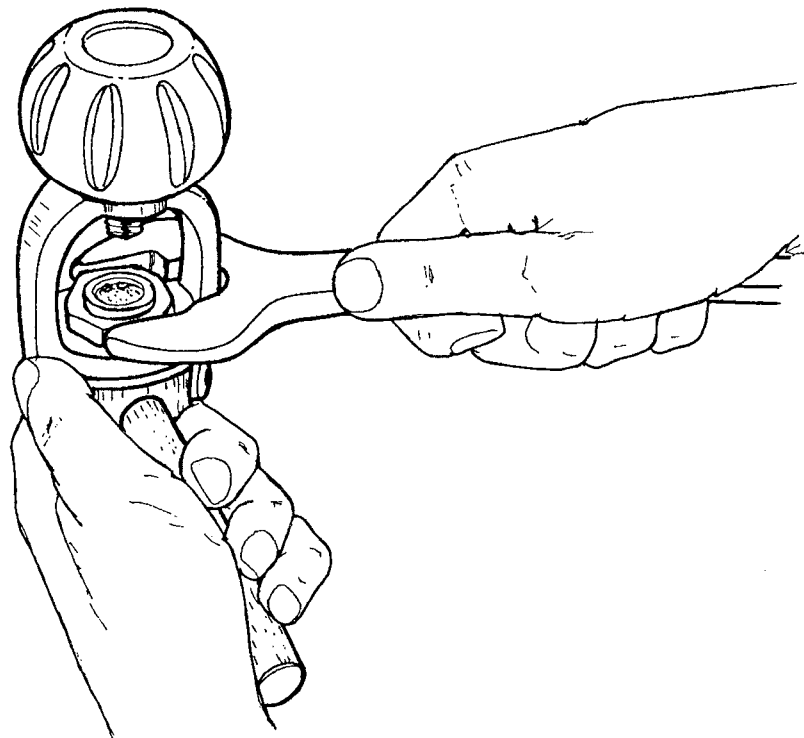

FIG. 5
- 8. Remove yoke retaining nut (7) with wrench (B-1) then remove yoke and knob assembly (25) (Fig.5).